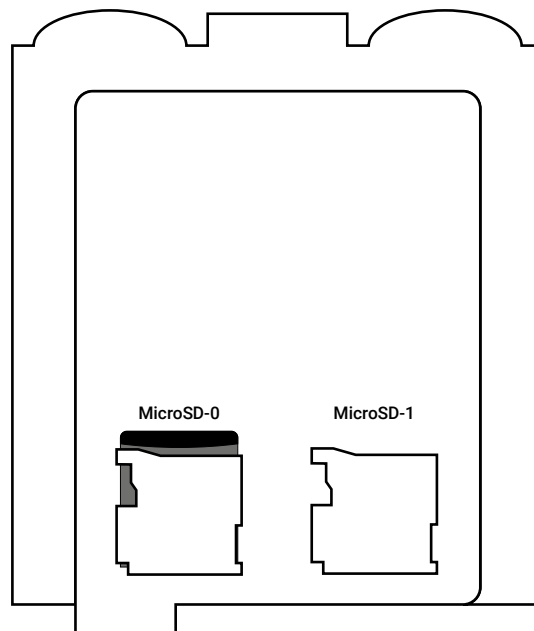

Figure 3 – Elements under the cover
8. For the device operation in the VPN network, you must place the file "vpn.json"4 with the correct connection settings to an external storage device installed in a slot MicroSD-1 (see Fig. 3).
To configure the network settings (IP address, gateway, mask, DNS) you must place the file "network.json"5 to an external storage device installed in a slot MicroSD-1 (see Fig. 3). Before doing this, open the file with any text editor (e.g., Notepad) and enter the parameters in accordance with the configuration of your network.